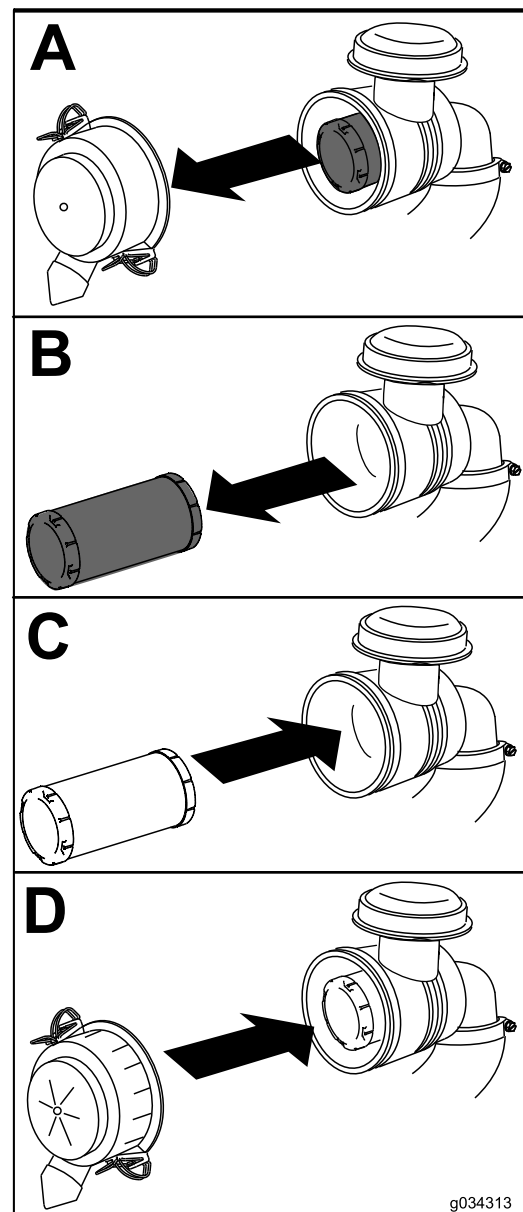

Figure 39
1. Gently slide the air-cleaner element out of the air-cleaner body (Figure 39).
4. Install the air-cleaner cover with the side indicated as UP facing upward and secure the latches (Figure 39).